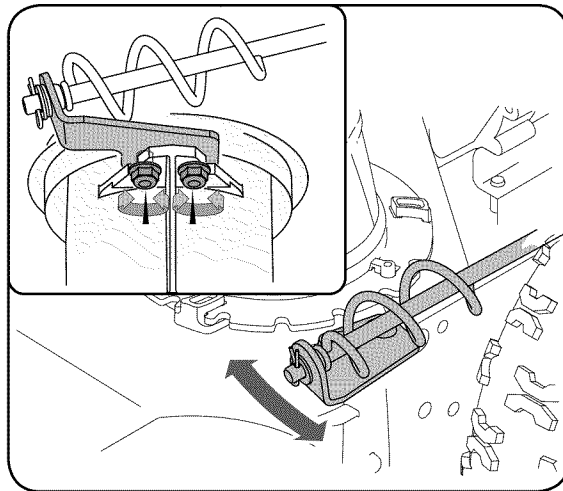

Figure 6
1. Loosen the two nuts which secure the chute bracket and reposition it slightly. See Figure 6.